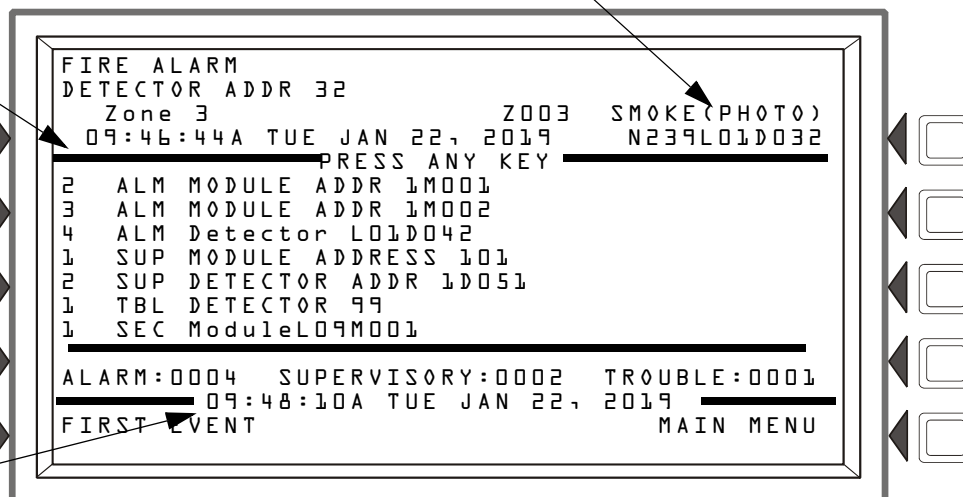

Figure 4.5 Multiple Event List - Fire Alarms Sample Screen
- The SCROLL DISPLAY hard keys scroll through the list of active events. You can also scroll through events by pressing the up/down arrow keys directly above the <ENTER> key. The up and down arrows will scroll the cursor through the list. The event at the top will remain at the top. If the event at the top of the screen is sequenced in such a way that it would normally appear in the list, the display will skip over it, and the numbers will be out of sequence. (Figure 4.5 shows events 3-9 in sequence.)